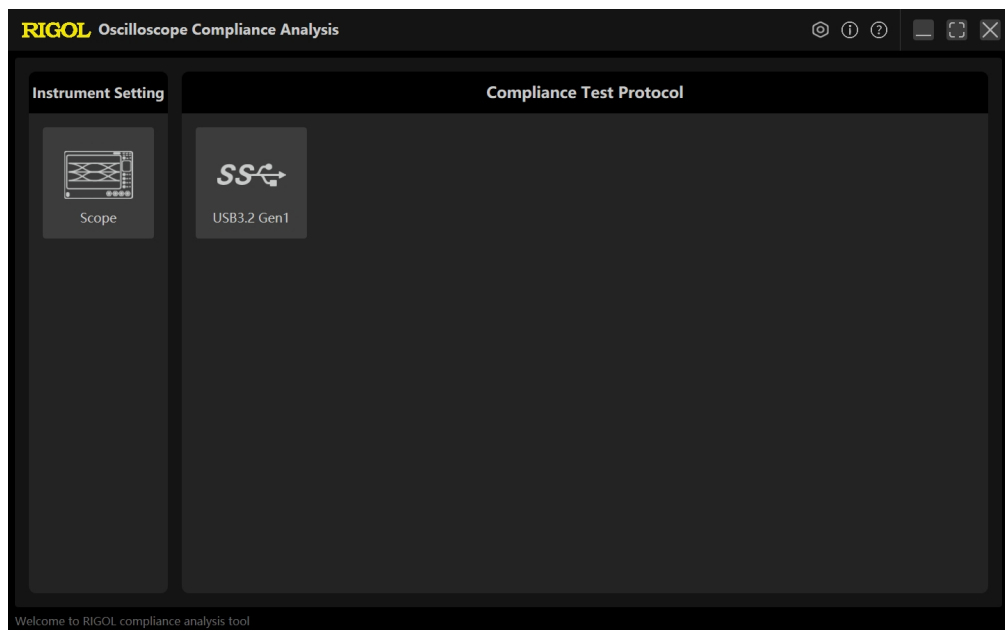

Figure 5.1 RigolCTS Main Interface
1. Click on the Scope icon shown in *Figure 5.1* to enter the Scope Setup interface.